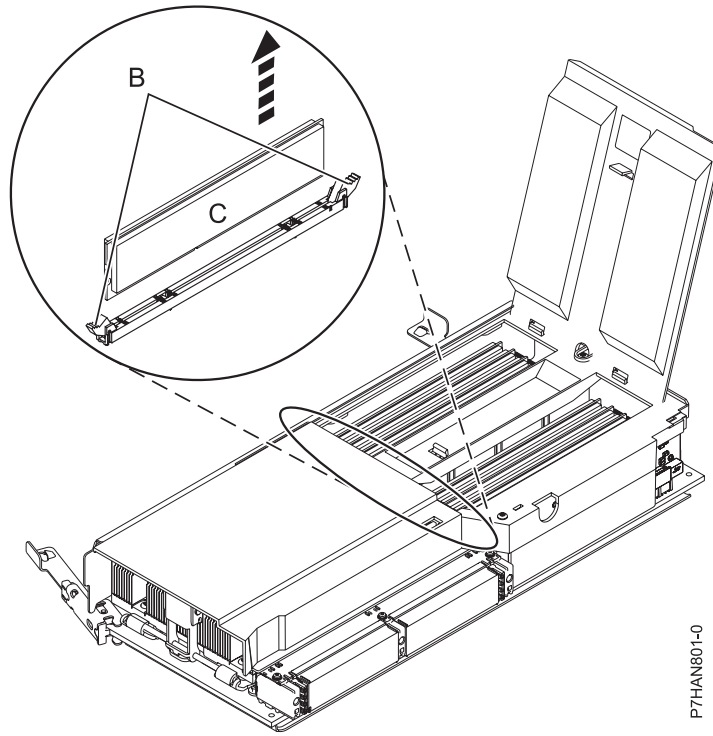

Figure 5. Removing a memory module
11. Unlock the memory module by pushing the locking tabs **(B)** out and down, as shown in Figure 5 on page 8. Lift the memory module **(C)** out of the connector. The lever action of the tabs forces the memory module out of the connector.